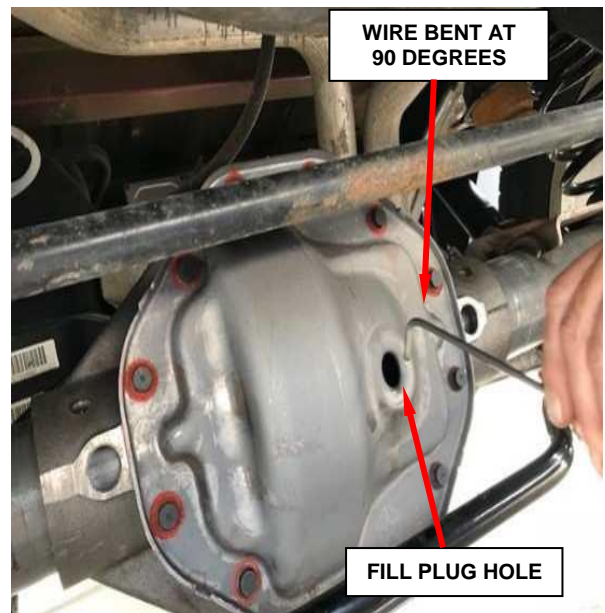

Figure 1 – Fill Plug
3. Clean the area around the fill plug and remove the oil fill plug (Figure 1).